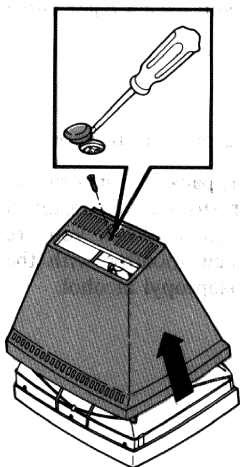

Figure 5-39 Monitor Cover Removal
7. Remove the screw cap from the back of the monitor (Figure 5-39).
8. Unscrew the cover retaining screw and remove it (Figure 5-39).